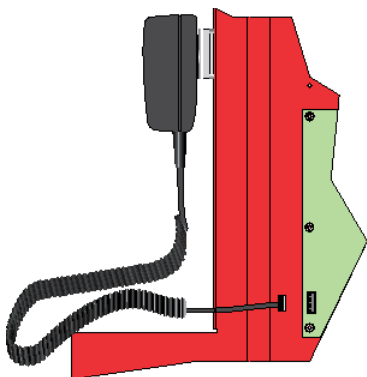

Figure 4: Microphone Cord Inserted Through Dead Front Panel Hole
2. Insert microphone cord through hole at the bottom of the dead front panel. See Figure 4.